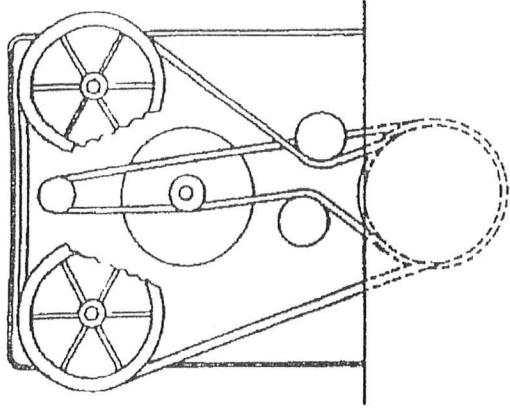

Fig. A-10
7. Place one end of the fast speed reduction drive belt on the reduction unit, and the other in the outer V of the cutterhead shaft. The left side of the belt will ride in the small V of the dual V-pulley, this is normal (see fig. A-10).